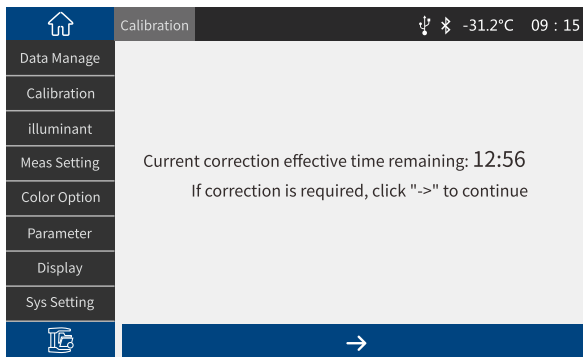

Figure 3 Calibration Interface
1. Click on "Instrument Calibration" in the main menu interface to enter the calibration prompt interface (Figure 3). The interface will display whether the current calibration is effective and the remaining time for calibration to be effective.